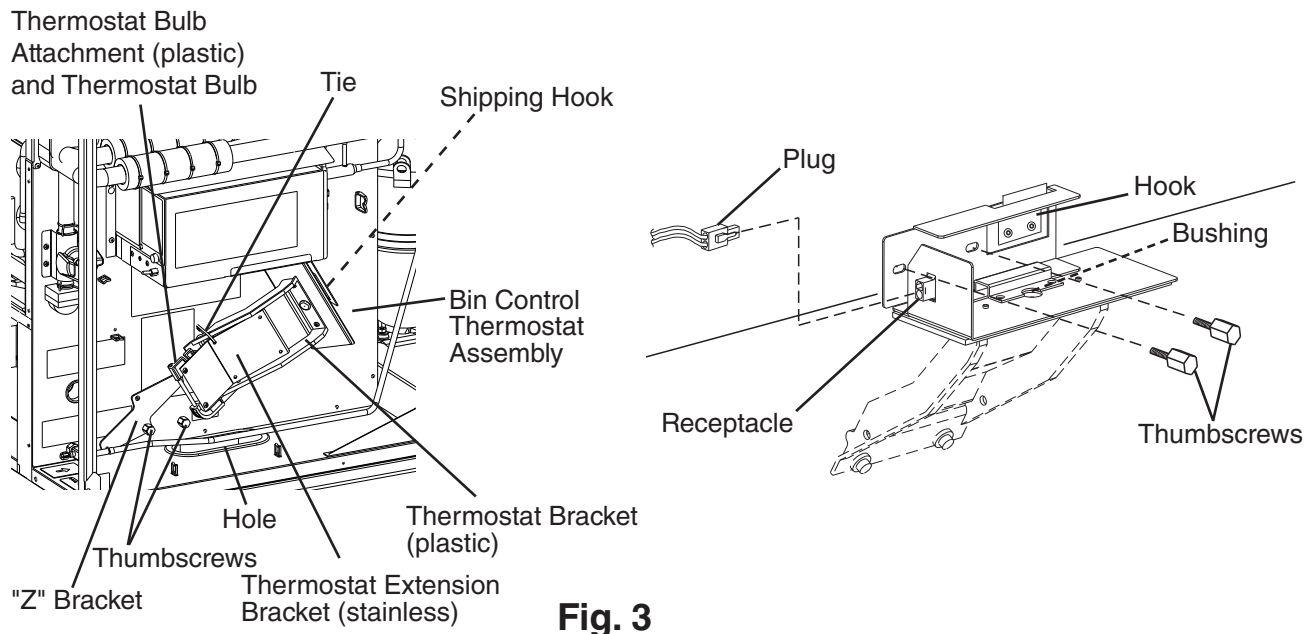

Fig. 3
- b. Remove the tie securing the bin control thermostat assembly. Remove the 2 thumbscrews and the "Z" bracket. See Fig. 3.